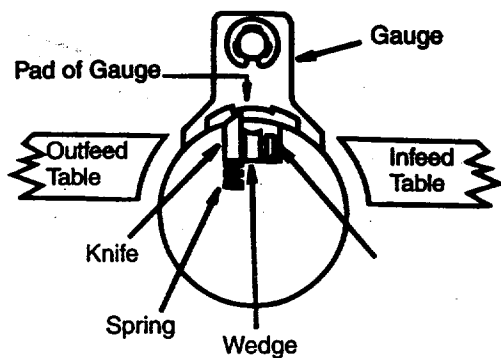

Figure 21 - Checking Knife Height
- Place the gauge on the cutterhead as shown in Figure 21, page 11.